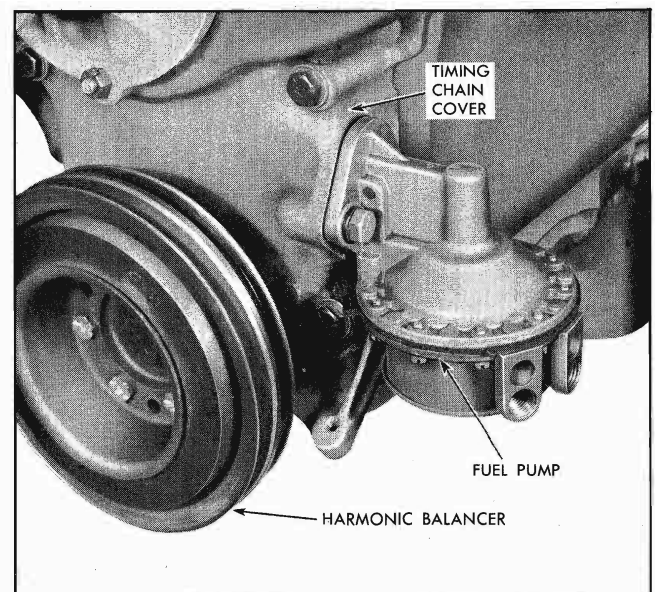

Fig. 6-74 Position of Fuel Pump on Timing Chain Cover
6. Remove fuel pump (Fig. 6-74).
11. Install fuel pump (Fig. 6-74).